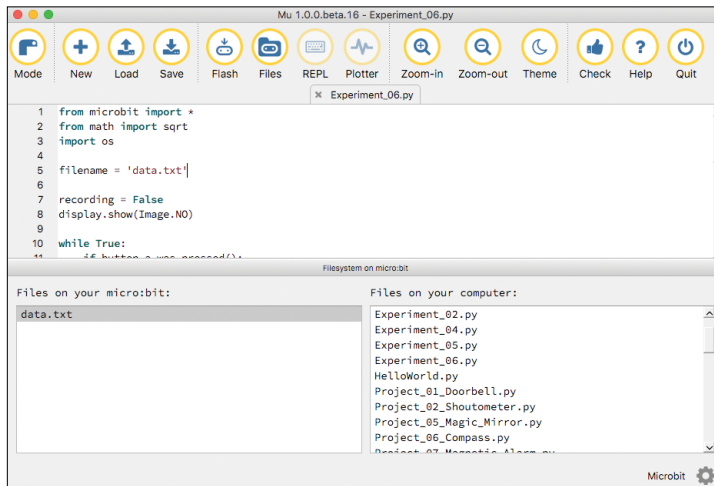

Figure 5-9: Mu's File feature in action
3. To transfer the file containing the readings to your computer, use Mu's *Files* feature. Connect your micro:bit to your computer with a USB cable and click the **Files** icon in Mu's toolbar (Figure 5-9).
The bottom of the window now has two columns. On the left are the files saved on the micro:bit. In Figure 5-9, there is only one file, *data.txt*. On the right are the files in Mu's code directory, which is in your home directory under *mu code*.